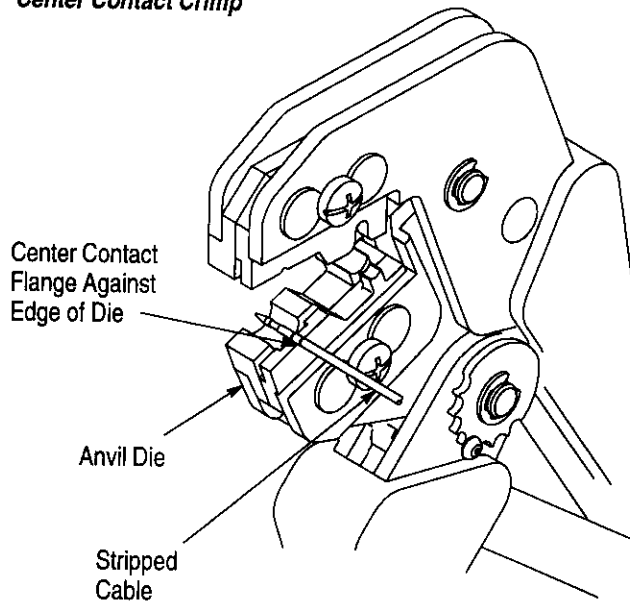

Figure 3
4.1. Center Contact (Figure 3)
1. Slide center contact onto stripped conductor. Insert center contact assembly into the partially closed center contact crimping chamber on the anvil die. Make sure the center contact flange is against the edge of the die as shown in Figure 3.